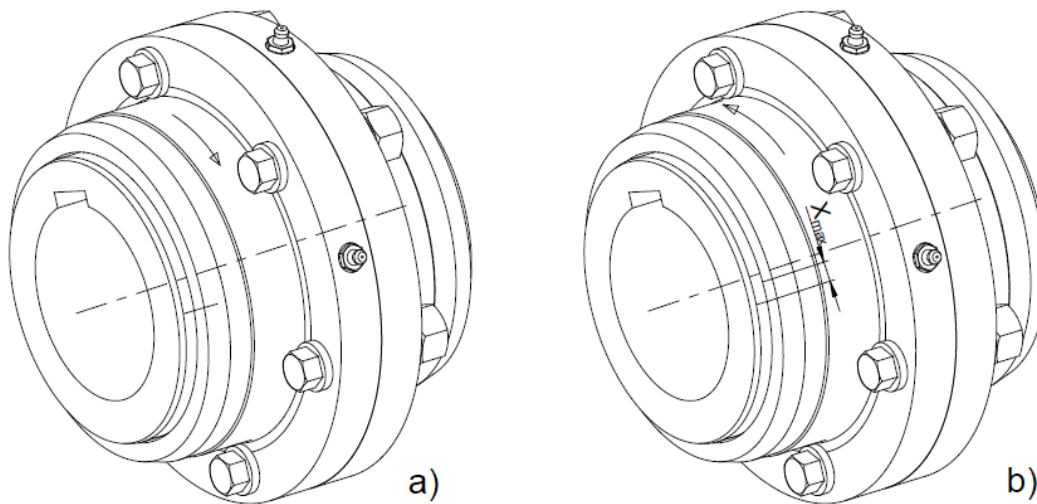

Figure 11.1: Checking the wear limit
- Turn hub (item 1) in one direction of rotation
- Make a marking on the hub (item 1) and coupling halve (item 2) as shown in figure 11.1 (a)
- Turn the hub (item 1) in the other direction of rotation until stop